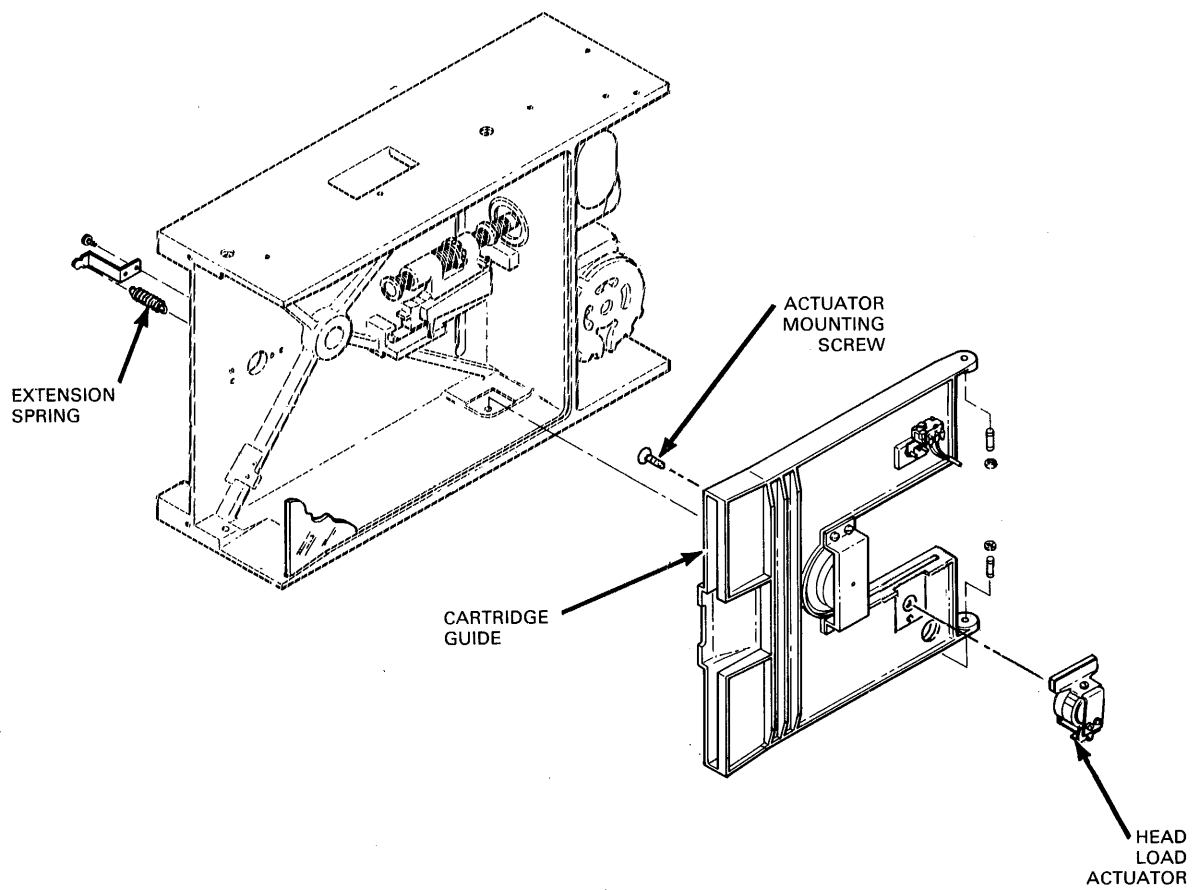

Figure 5-17. Head Load Actuator Removal and Replacement
3. Disconnect and remove extension spring (Figure 5-17).
1. Swing cartridge guide out on pivots (Figure 5-17).